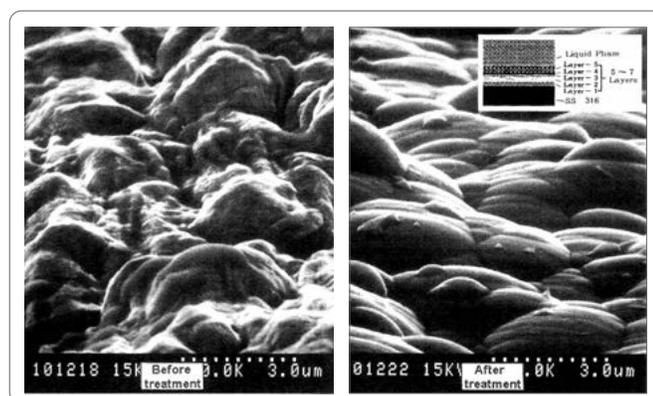
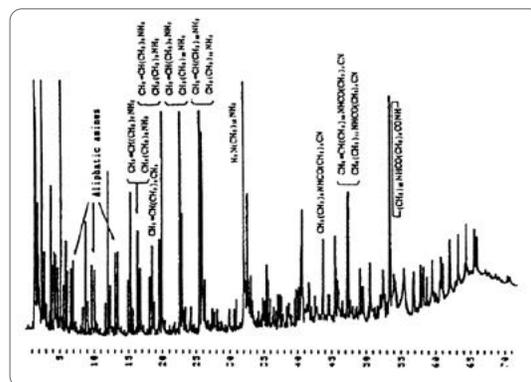

Figure 1. SEM images of stainless steel column surface before and after multi-layer pretreatment.
Figure 5. Inertness (PyGC of Nylon 12-6): UA-PY2.
That's a hard question. Only Hewlett Packard, known to supply high performance products, has done the tests on this. We have challenged them with Ultra ALLOY® 1. Figure 1 shows the performance comparison with Brand (J). When 5mg of a sample was used in heating program mode, ours clearly outperforms. The pyrolysis of Nylon-12.6 is known to give peaks due to various amines, shown in Figure 5. These peaks are extremely difficult to separate with FS columns.